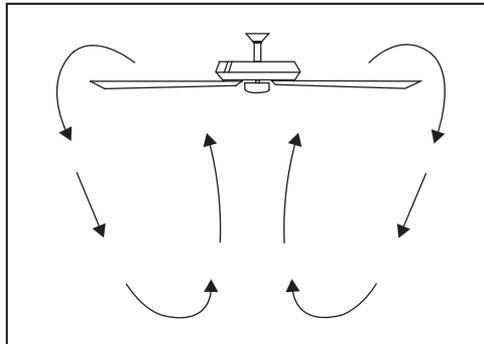

Figure 20
**Cool weather** - (Clockwise direction) An upward airflow moves warm air off the ceiling area. (Fig. 20) This allows you to set your heating unit on a lower setting without affecting your comfort.